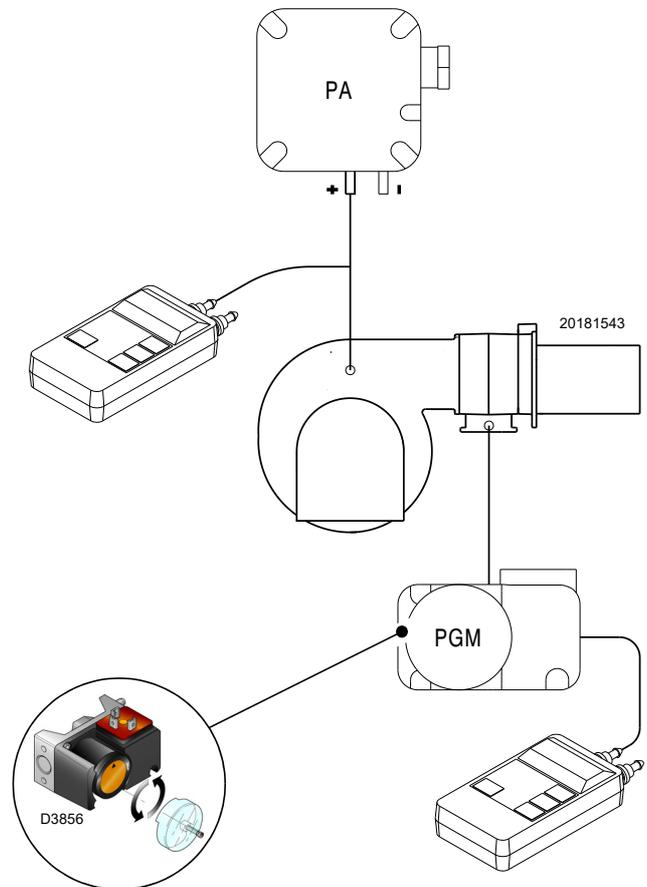

Fig. 31
- Adjust the maximum gas pressure switch (Fig. 31) to the end of the scale.
Adjust the maximum gas pressure switch (Fig. 31) after making all other burner adjustments with the maximum gas pressure switch set to the end of the scale.